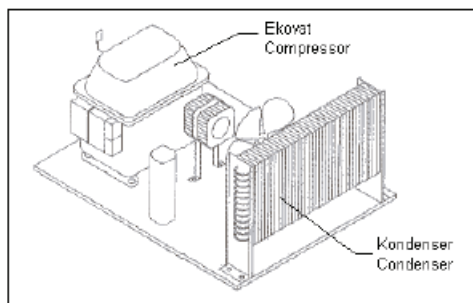

Figure -1
- Because any dust accumulated on the condenser can prevent the device from operating efficiently, clean the dust on and around the condenser using a soft brush or vacuum cleaner once a fortnight. (Figure -1)